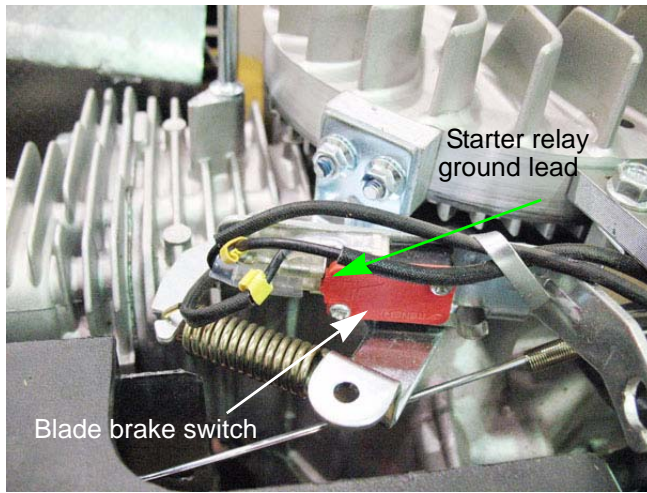

Figure 6.14
4. Disconnect the relay's ground lead from the middle tab of the blade brake switch. See Figure 6.14.